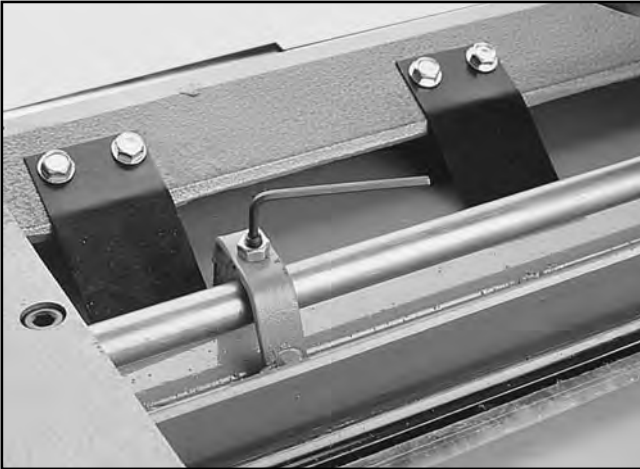

Figure 18. Chip breaker height adjustment.
6. If an adjustment is necessary, loosen the locknuts and turn the setscrews. See **Figure 18**. Stop turning when the bottom of the chip breaker just touches the gauge block.